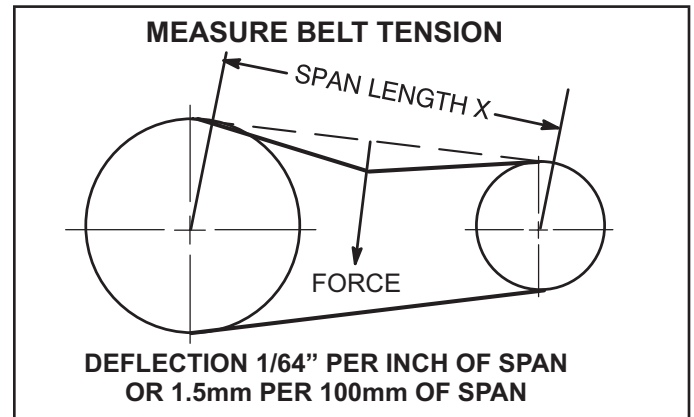

FIGURE 9
- 1 - Measure span length X. See FIGURE 9.